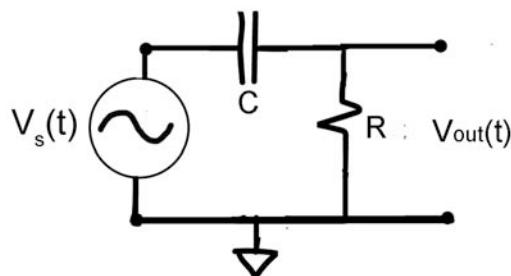

Figure 5.3.
Q.10 An RC high pass with $f_{3\text{dB}} = 1.0 \text{ kHz}$ (Figure 5.3). Include a SCREENSHOT of the rough performance and the full Bode plot of the magnitude only to demonstrate that your measurements confirm that you hit the desired "break frequency".